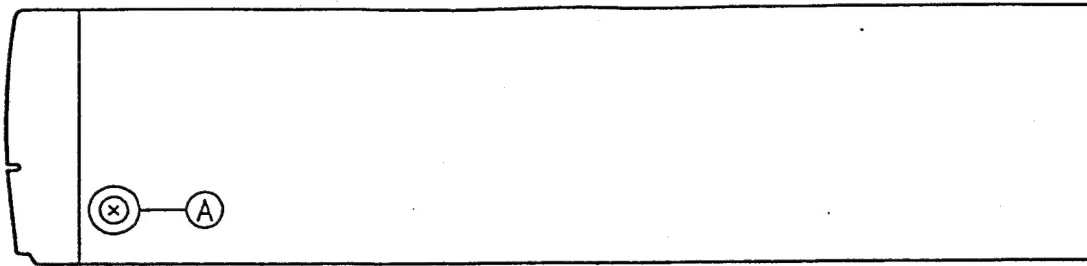

Figure 1
1. Remove 2 screws (A) from left and right sides of top cover. (See Fig: 1)